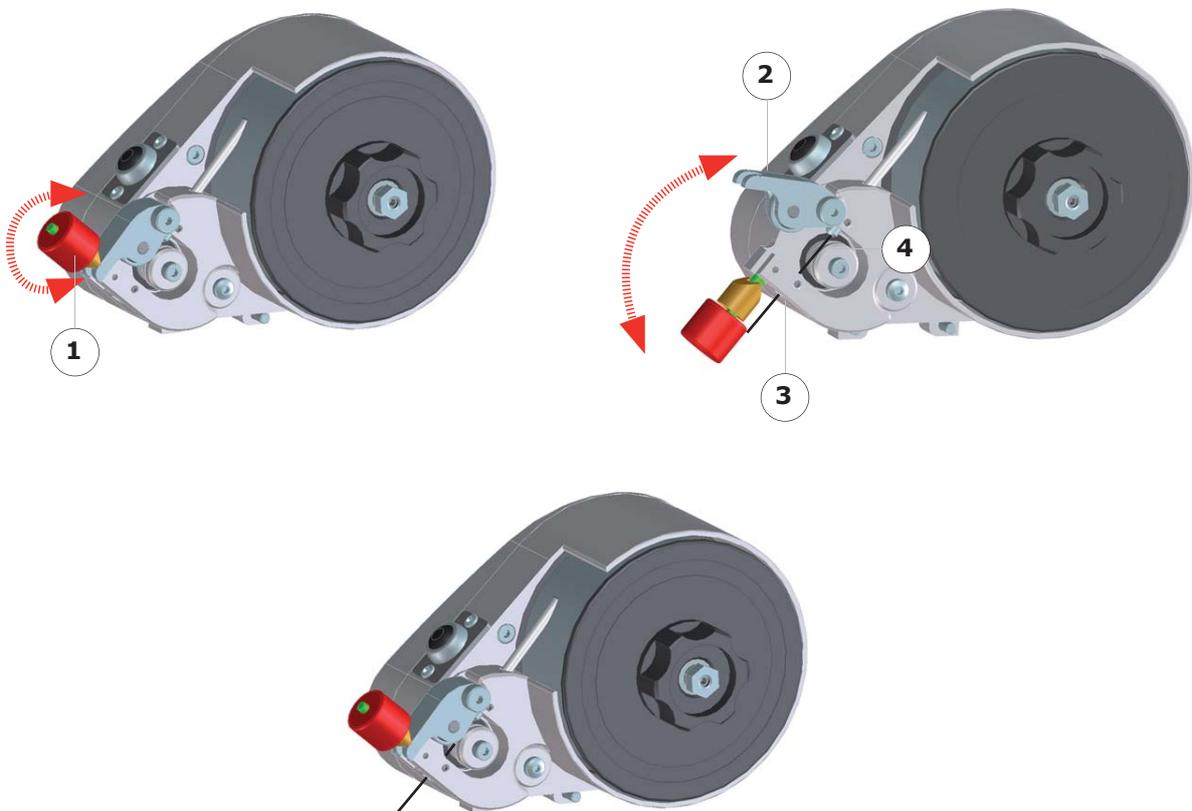

Fig.5.11 - Inserting the wire in the feeder
- Loosen the adjusting knob (Fig.5.11 - 1) of the feeder mechanism.
- Tilt the adjusting knob so as to free the pressure arm (Fig.5.11 - 2).
- Insert the wire into the opening in the tip of the wire sheath (Fig.5.11 - 3).
- Replace the pressure arm, taking care that the wire is in place in the groove of the wire knob (Fig.5.11 - 4).